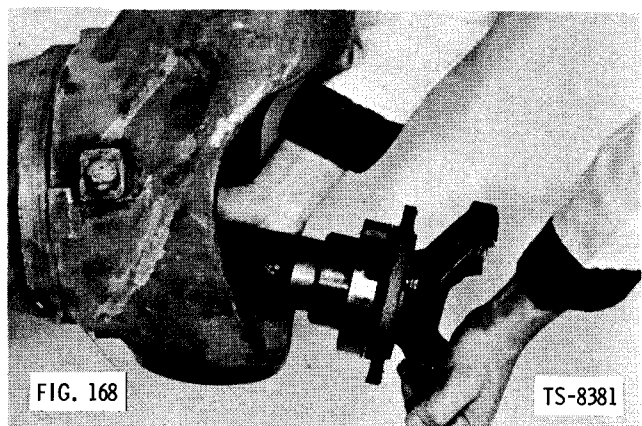

FIG. 168
9. Coat flange of axle shaft bearing retainer with light coat of Permatex No. 2. Position axle shaft in axle housing so that splines of shaft engage splines of differential (Fig. 168).